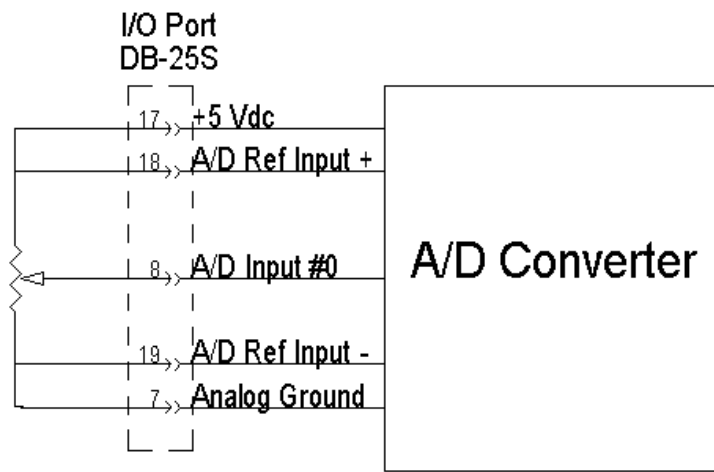

Figure 1.3 - A/D with Variable Resistor
- Connect a 0 to 5V DC analog device to A/D input #0, or you can connect a variable resistor as shown in Figure 1.3. The variable resistor must be greater than 1k Ohms to limit the output current to 5mA.
- Connect A/D Ref Input- to analog ground (See Figure 1.3).